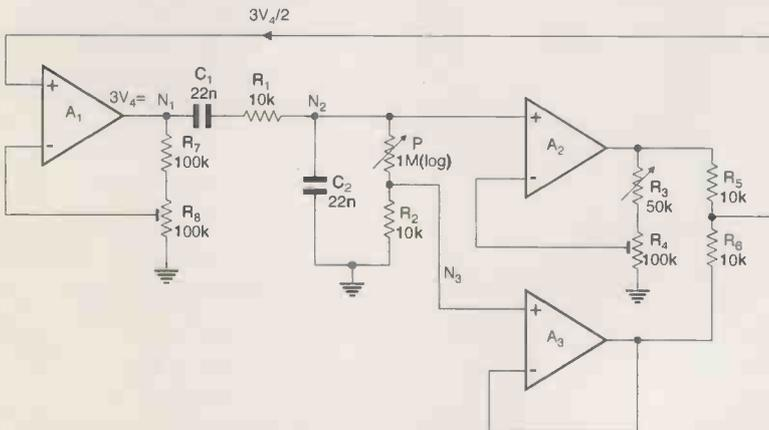

Fig.4 Here A_2 and A_3 perform the same function as the A , B divider of Fig.2 (a)
Evidently $3V_4$ can be computed from V_2 and V_3 by an operational circuit. One realisation of this is shown in Figure 4. Here A_2 has an output of $2V_2$ and A_3 of V_3 . The combining network R_5 , R_6 reduces the output to $3V_4/2$ so to sustain oscillation A_1 must have a gain of 2. Note that the input capacitance of A_2 can now be absorbed in C_2 .
The amplifiers should be f.e.t. - input types. The gain-setting potentiometers should be capable of fine adjustment. If range switching is required the capacitors should be very accurately matched or a separate equalising adjuster (for A/B or R_4 in Figure 4) provided on each range. Reference: (1) E.R. Wigan, Single Control Element Wien Bridge, Electronic Technology, June, 1960, vol. 37, no.6, pp223-231